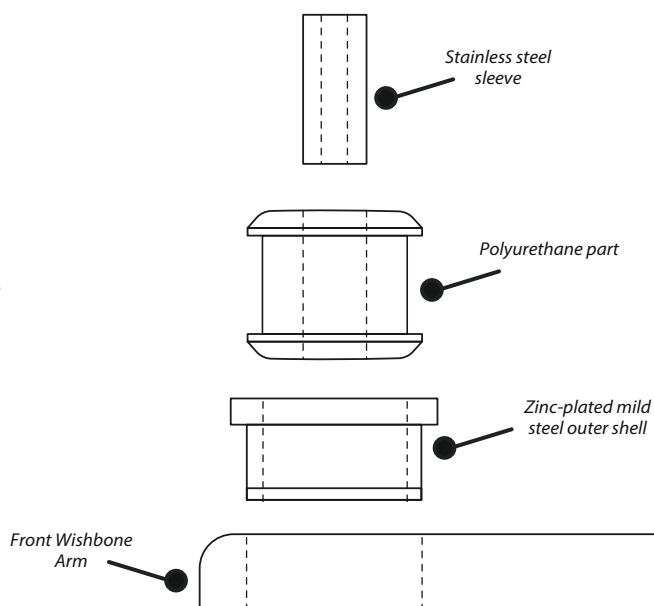

Figure 1
3. Push the outer shell into the bore of the arm, smaller diameter first. The shell fits into the arm from the side of the arm that has a radius, as shown in figure 1.